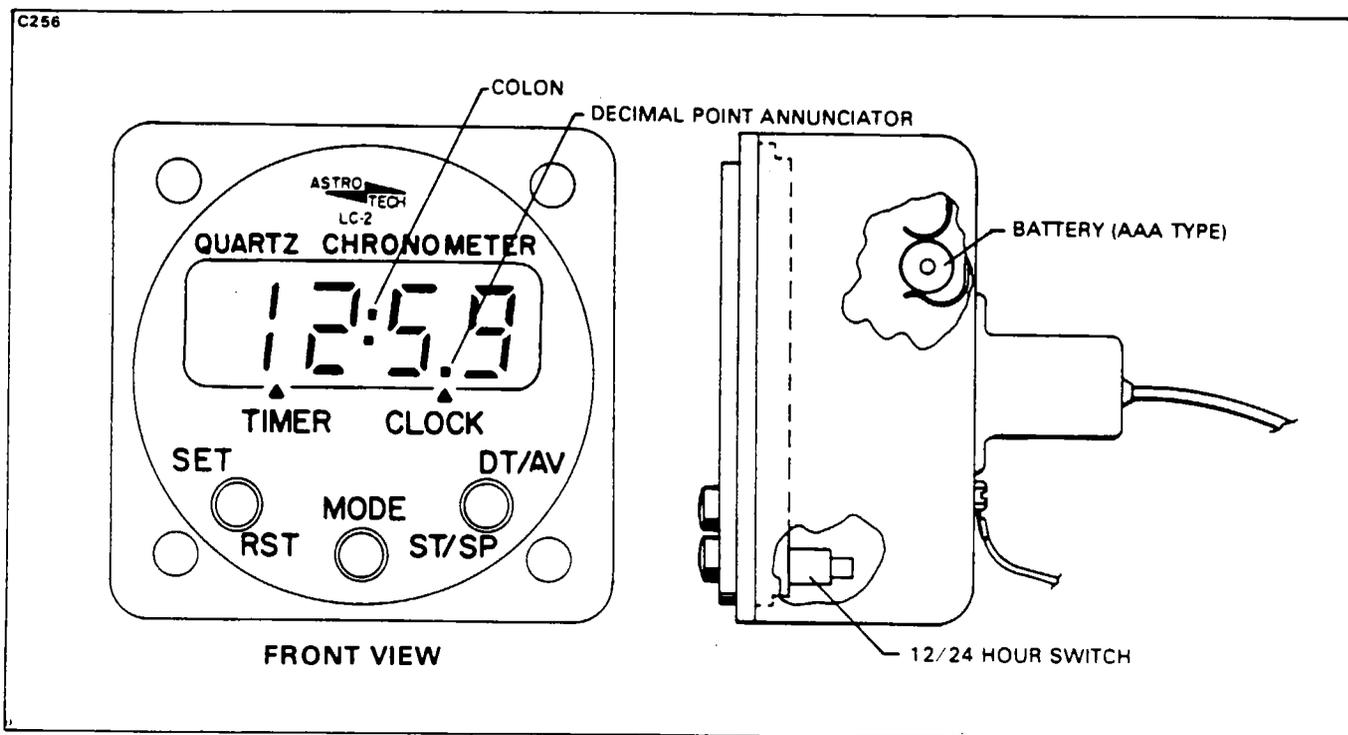

Figure 39-2. Digital Clock
**DIGITAL CLOCK, TIMER, CHRONOMETER OPERATION.** (Refer to Figure 39-2.)